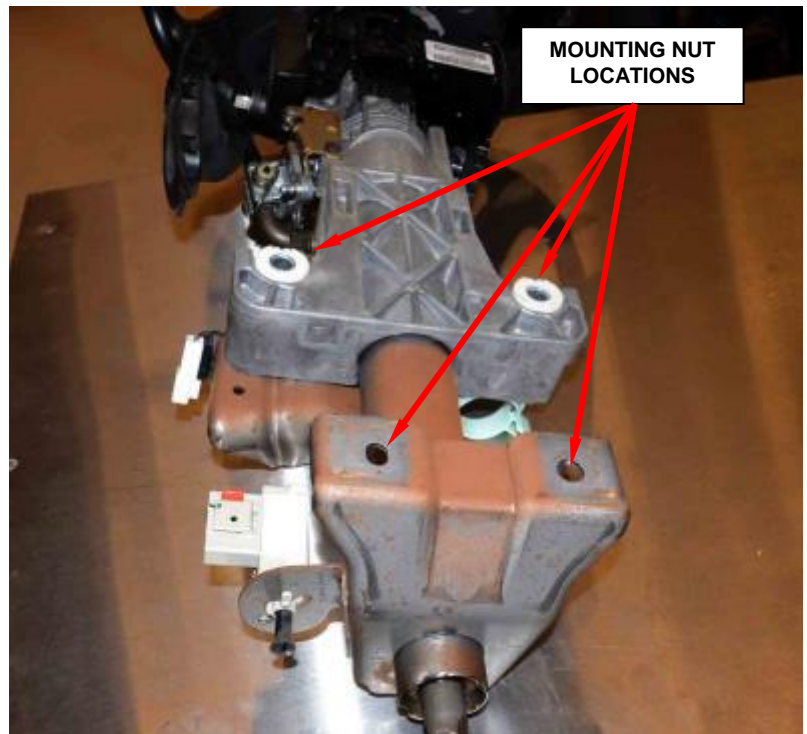

Figure 107 - Steering Column Mounting (Column Removed for Photographic Purposes)
16. Remove the four steering column mounting nuts (Figures 107 and 108).